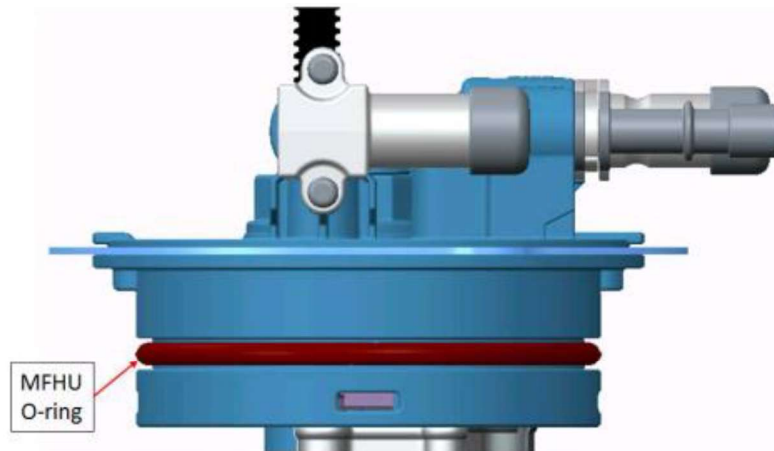

Figure 4.1
6. Apply a thin layer of DOW UCON LB-625 or equivalent O-ring lubricant to the bore seal O-ring on replacement MFHU. *Reference Figure 4.1*